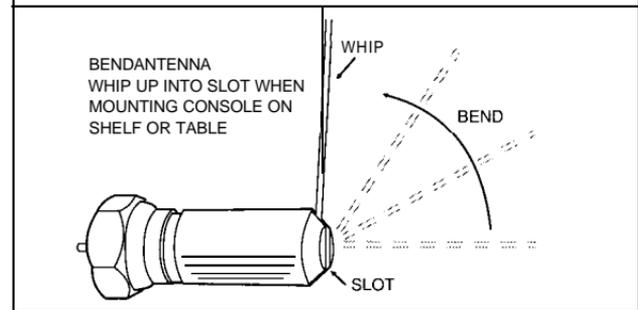

Figure 10. Bending Whip Antenna
STEP 4: Attach the whip antenna to the connector on the back of the Console. Bend the whip antenna 90 degrees into the slot of the connector (see Figure 10).